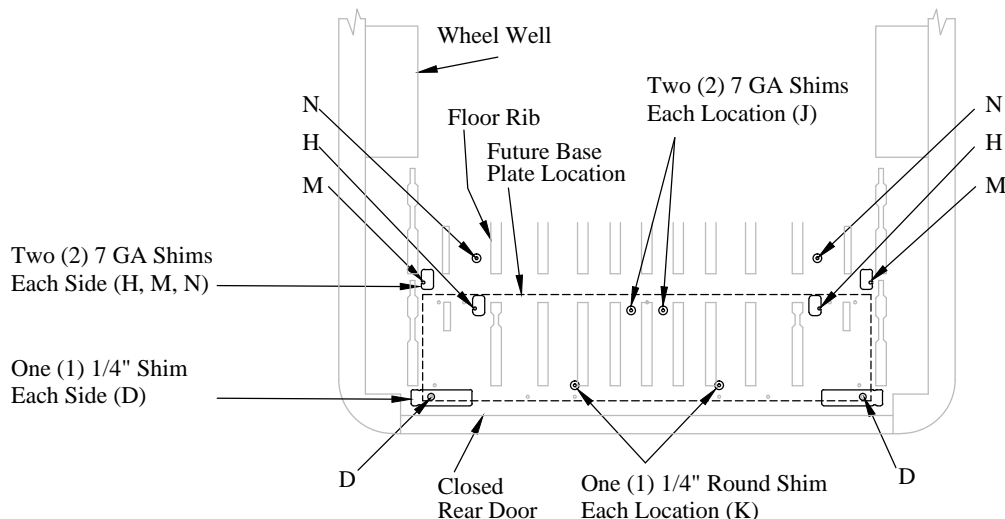

Figure 8: Rib shim locations (top view).
1. Position the supplied rib shims over the "H", "M", "N" locations (Figure 8).
2. Position the supplied round shims at each "J" location (Figure 8).
3. Position the supplied 1/4" rib shims over the "D" locations (Figure 8).
4. Position the supplied 1/4" round shims at each "K" location (Figure 8).